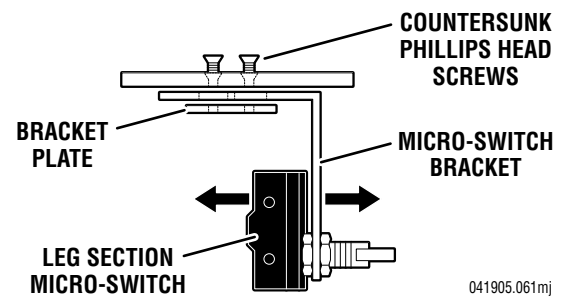

Figure 5-29. Leg Section Micro-Switch Adjustment.
3. To adjust the Leg Section switches remove seat section top, loosen the 2 phillips head screws securing bracket, adjust the switch, tighten the screws and replace the seat section top. See figure 5-29.